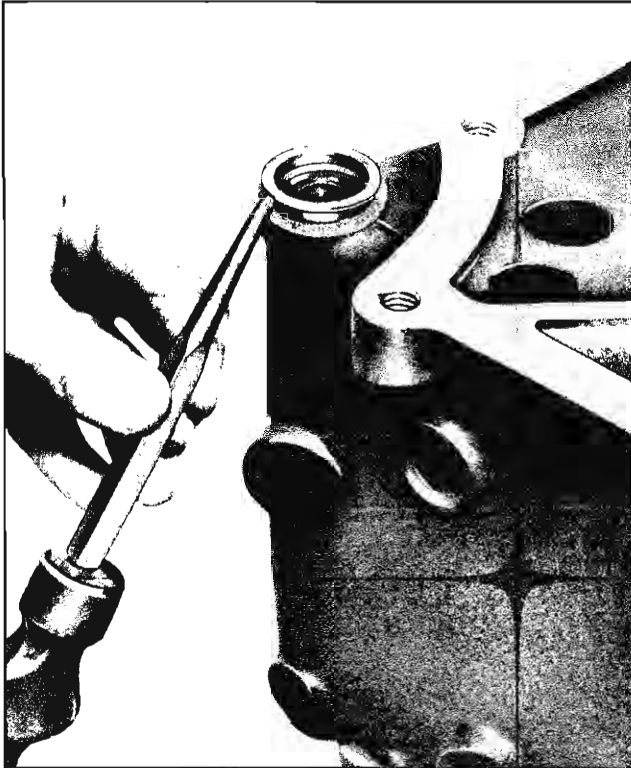

Fig. 7-24 Removing Seal
15. Remove manual shift shaft seal (Fig. 7-24).